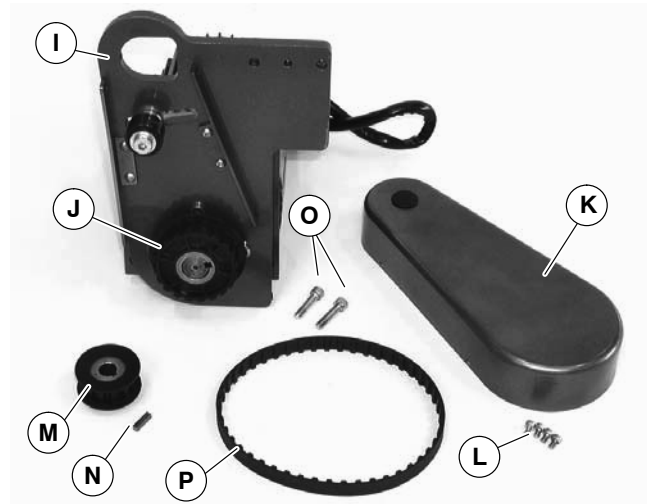

Figure 3
## 1. Typical components (Figure 3)
**NOTE:** Flat belt mounting package shown below (Figure 3), cleated belt mounting package similar.